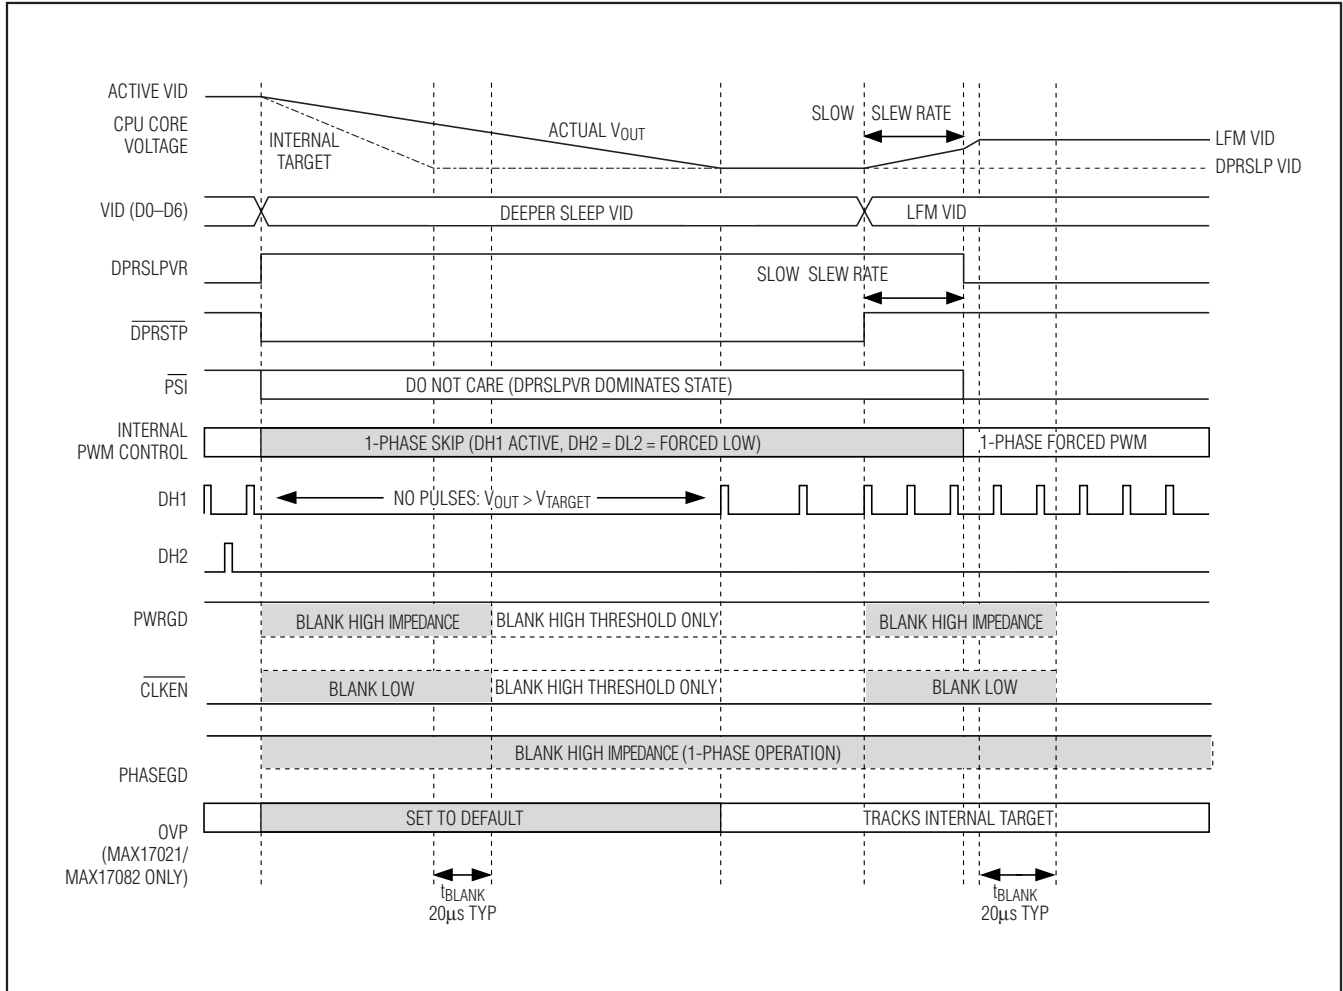

Figure 7. Slow C4 Transition
- IMVP-6+ Slow C4 Deeper Sleep Exit:** When exiting deeper sleep (DPRSLPVR high,  $\overline{\text{DPRSTP}}$  pulled high) while the output voltage is regulating to the deeper sleep voltage, the MAX17021 remains in 1-phase skip mode and ramps the output voltage to the LFM DAC code provided by the processor at 1/4 the slew rate set by RTIME. The controller blanks PWRGD, PHASEGD, and CLKEN until 20 $\mu$ s after the transition is completed. See Figure 7.